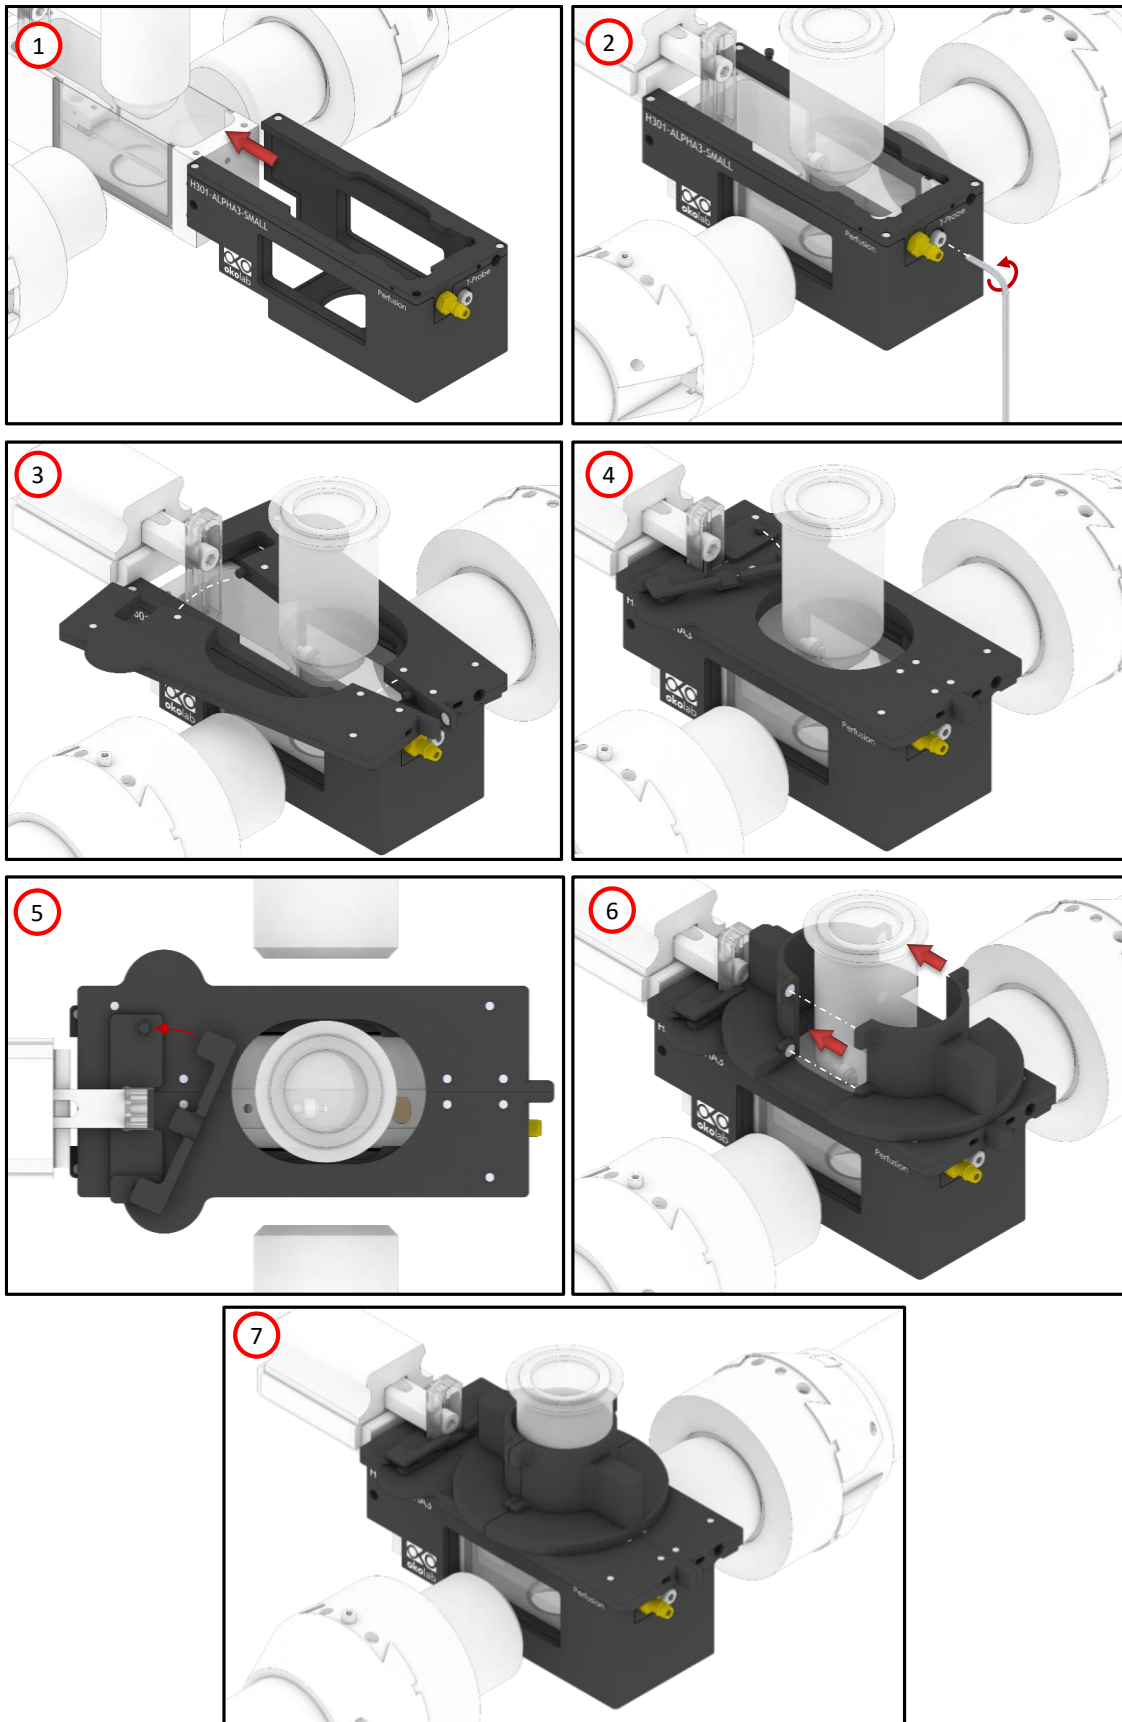

Figure 5. Connection of the Chamber with Stage
3. Insert the chamber base by sliding into place as shown in image 1 and 2 in Figure 5.
4. Tighten the captive screw M2 to fix the chamber base around the sample holder by using the provided hexagonal key (see image 2 in Figure 5).
5. Place the magnetic lid on the chamber base (see image 3 in Figure 5).
6. Insert the sample arm cover (see image 4 in Figure 5), and close it (see image 5 in Figure 5). It allows to reduce the brightness into the sample.
7. Place the magnetic objective heater in place as shown in image 6 in Figure 5.